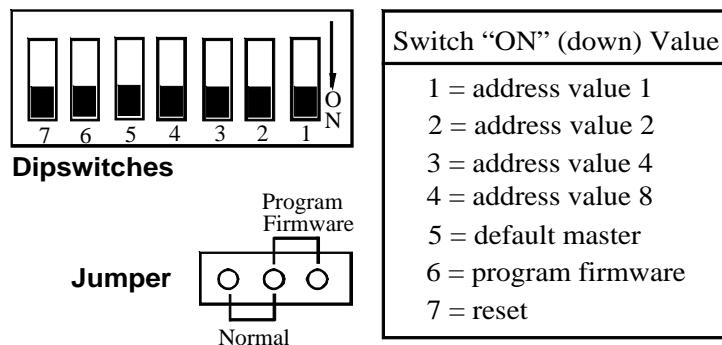
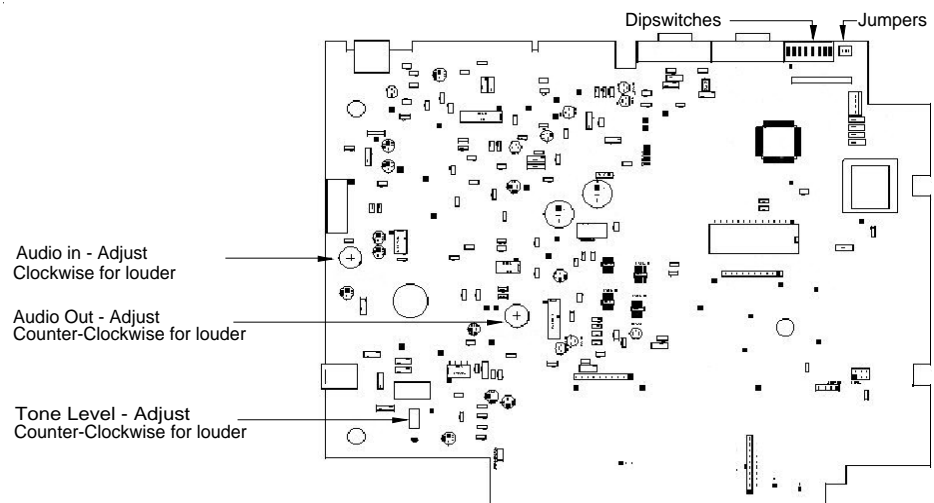

Figure 22a – NC306 Dipswitches and Jumper Settings
Figure 22b – NC306 Potentiometer Functions
**NC306 Master Station:** The device address is configured via dipswitches on the back of the master. Refer to Figure 22a for switch settings. Internal adjustment controls are provided for field adjustment of **Audio In** (clockwise to adjust louder), **Tone Level** (counterclockwise to adjust louder), and **Audio Out** (counterclockwise to adjust louder), if the site has specific needs that require changes from the factory settings. The **Audio Out** control must never be set to less than the half position. If the master audio is too loud at the patient station, refer to **Figure 40—NC351(A)/2 Internal Hardware Diagram** for additional controls to adjust. A reset switch is located on the back of the master station. Toggling this switch will reset the master station. Refer to Figure 22b for locations of adjustment potentiometers.